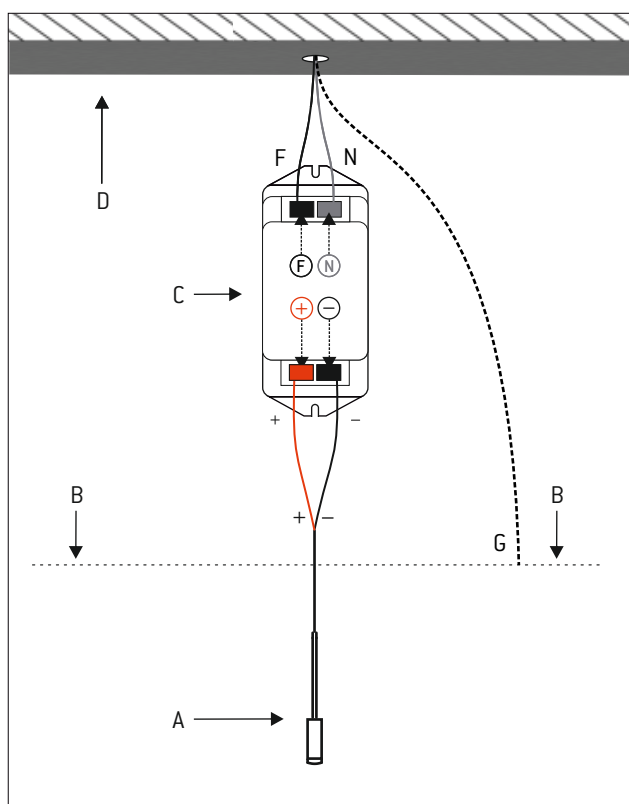

Figure 4
Make the electrical connections. The compositions must be connected serial wise using the same driver (D). Figure 4.